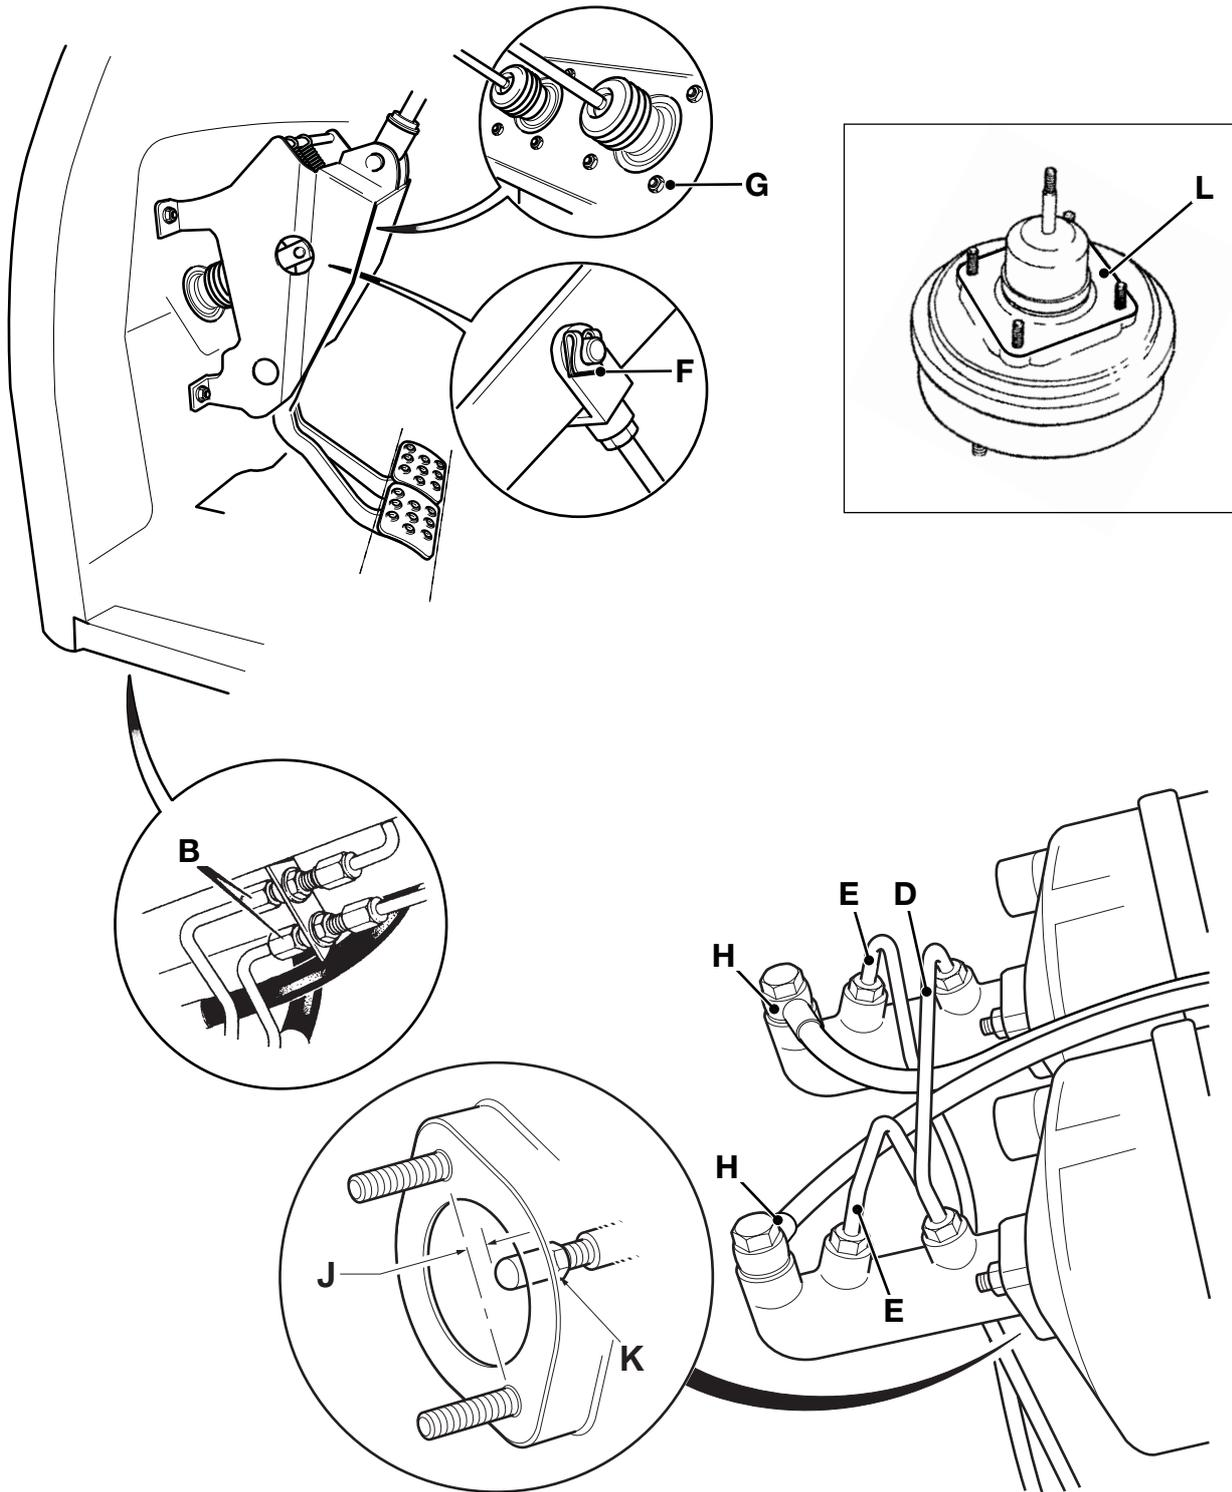

Fig 35.
- 2 → **Fig 35. (□ G-55)**. Working outside the cab, loosen and remove brake pipe unions **B**, plug and cap to prevent loss of fluid and ingress of dirt.